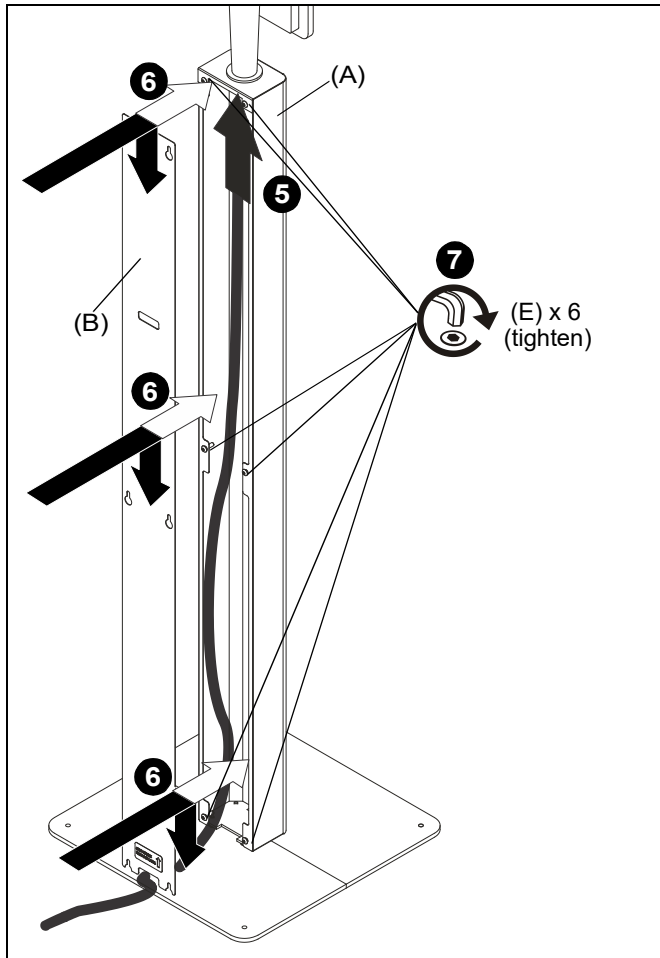

Figure 4
5. Connect cord to bottom of column-mounted tablet. (See Figure 4)
6. Install column cover (B) onto column (A) making sure keyholes are onto screws and cable is routed through the bottom gap on cover. (See Figure 4)
7. Tighten all screws (F) to secure cover (B) to column (A). (See Figure 4)